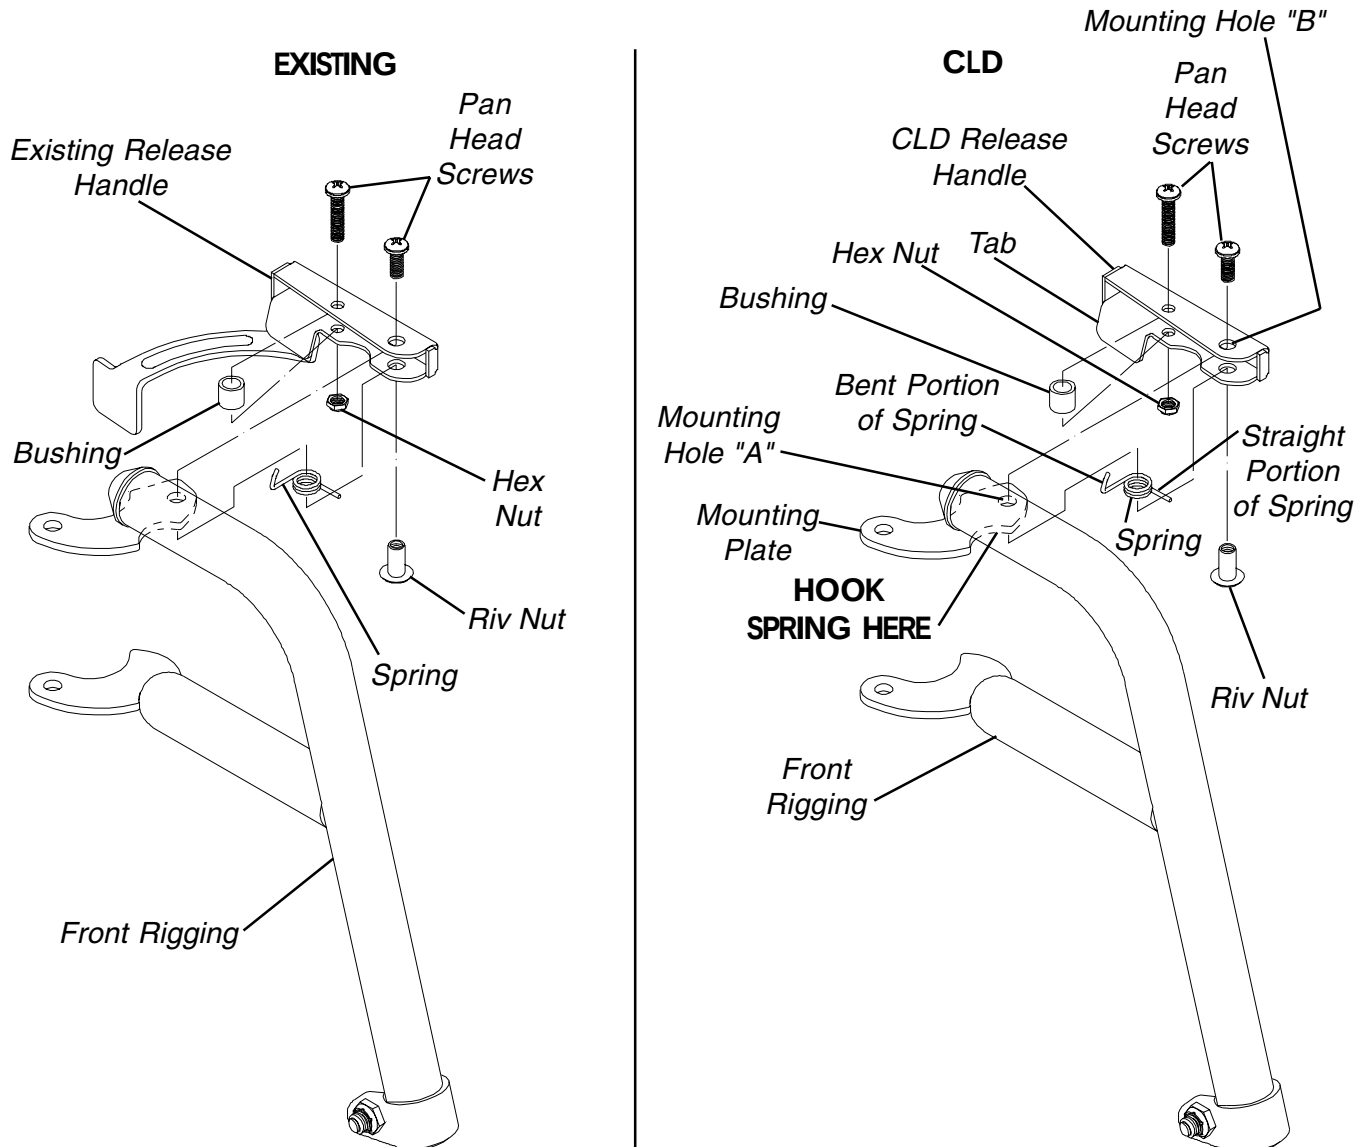

FIGURE 1 - INSTALLING CLD FRONT RIGGING RELEASE HANDLE
INSTALLING CLD FRONT RIGGING RELEASE HANDLE (FIGURE 1)
1. Remove the two (2) pan head screws, hex nut, bushing and spring from the EXISTING front rigging release handle and retain for later use.
2. Position the bushing between the two (2) mounting holes near the tab on the CLD release handle.
5. Position the hole in the spring UNDER mounting hole "A" in the orientation shown in FIGURE 1.
NOTE: The bent portion of the spring should hook over the mounting plate as indicated in FIGURE 1 and the straight end of the spring should rest inside the CLD release handle and point away from the tab.